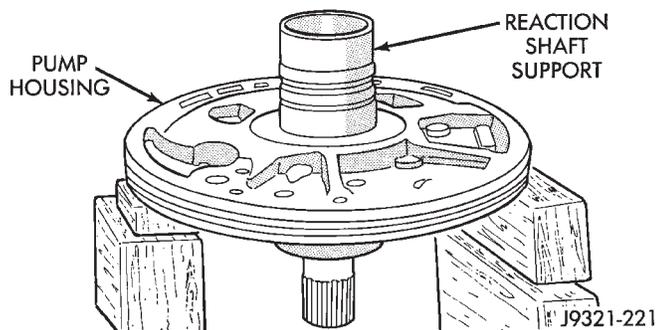

Fig. 174 Assembling Reaction Shaft Support And Pump Housing
(8) Install reaction shaft support on pump housing (Fig. 174).
(9) Align reaction support on pump housing. Use alignment marks made at disassembly. Or, rotate support until bolt holes in support and pump housing are all aligned (holes are offset for one-way fit).